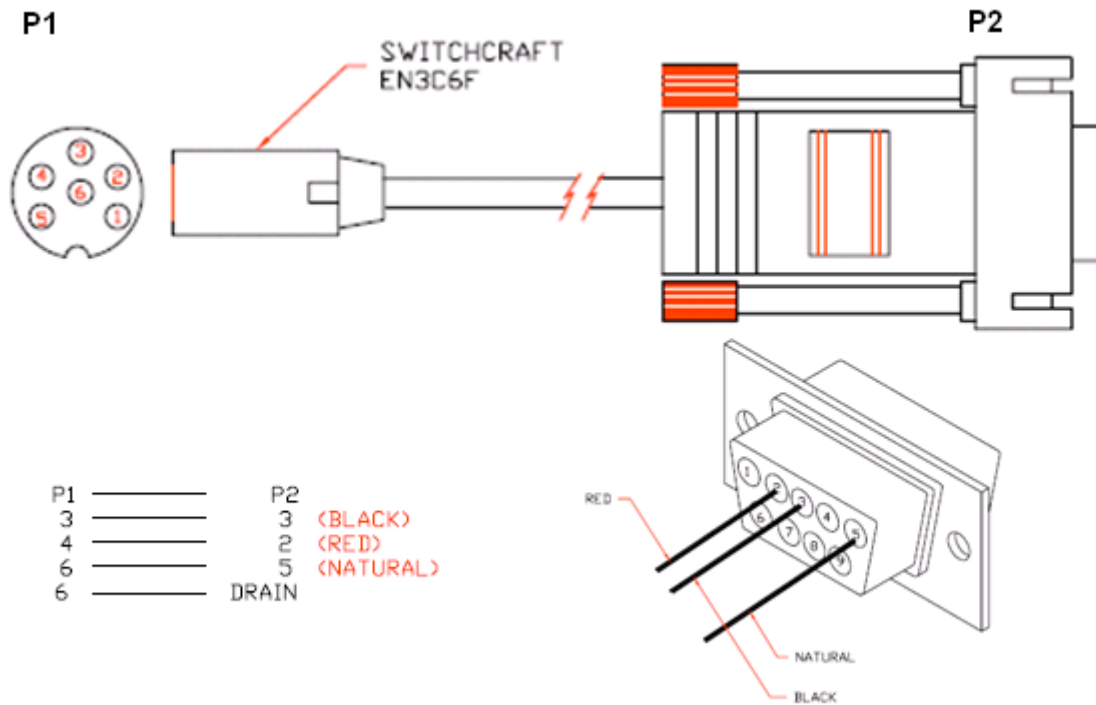

Figure 35: Apex Serial Cable Pin-Out
- If the first and second pins are green, the cable is 568-A (Figure 35).